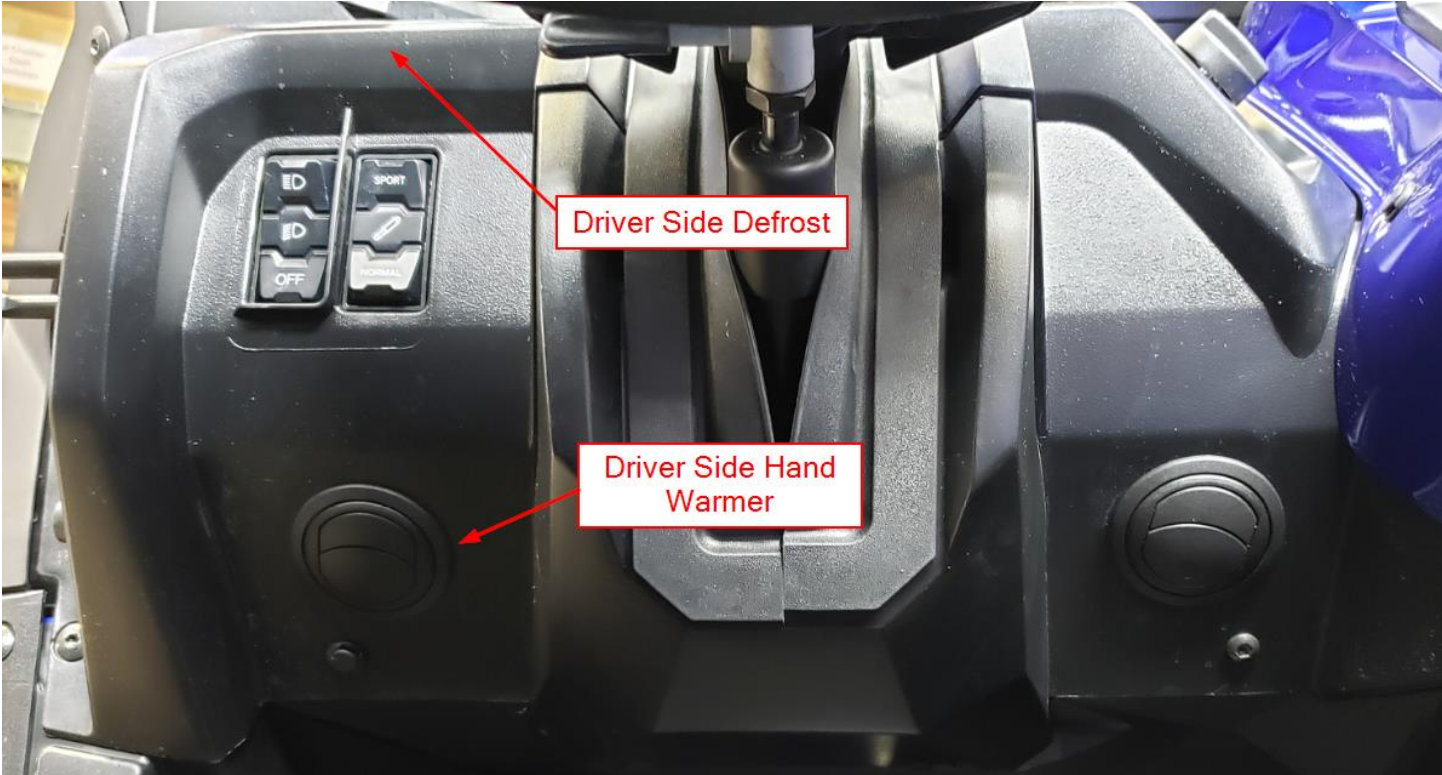

Figure 20
- s. Attach the assembled Driver Side Defrost & Hand hose to the heater on the Driver side and route the hose to the remaining holes on the Driver side. Route the two hoses through the openings, attach the 2" vents and install them into the bracket as shown in Figure 20.